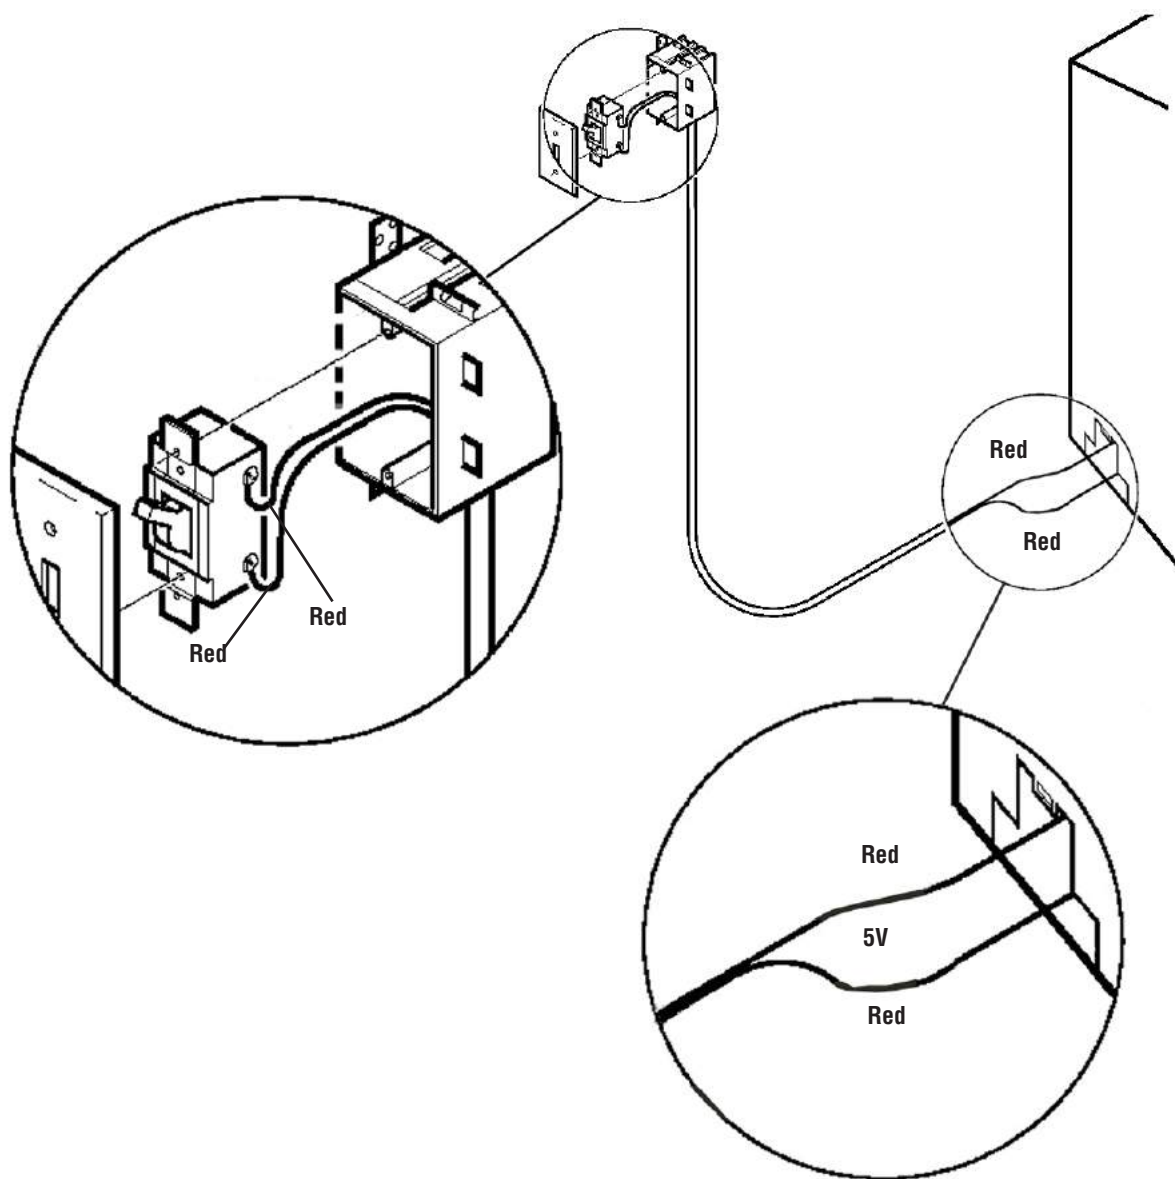

Figure 26
4. Connect the red wires to the wall switch as shown in **Figure 26**. Follow instructions provided with wall switch kit.